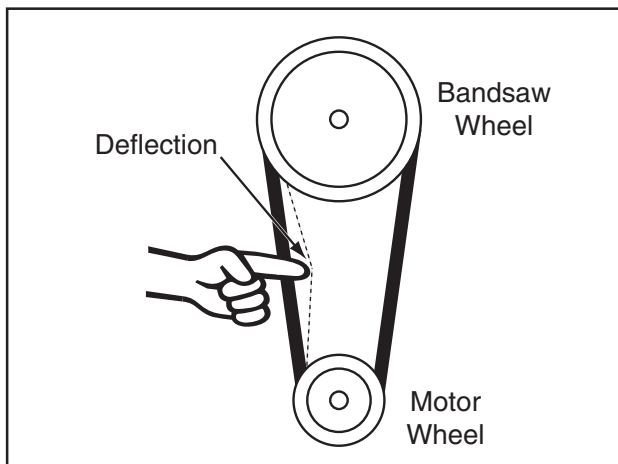

Figure 84. V-belt deflection.
4. Push the center of the V-belt. Note the amount of deflection (**Figure 84**). If deflection is more than $\frac{3}{4}$ ", re-tension the V-belt.